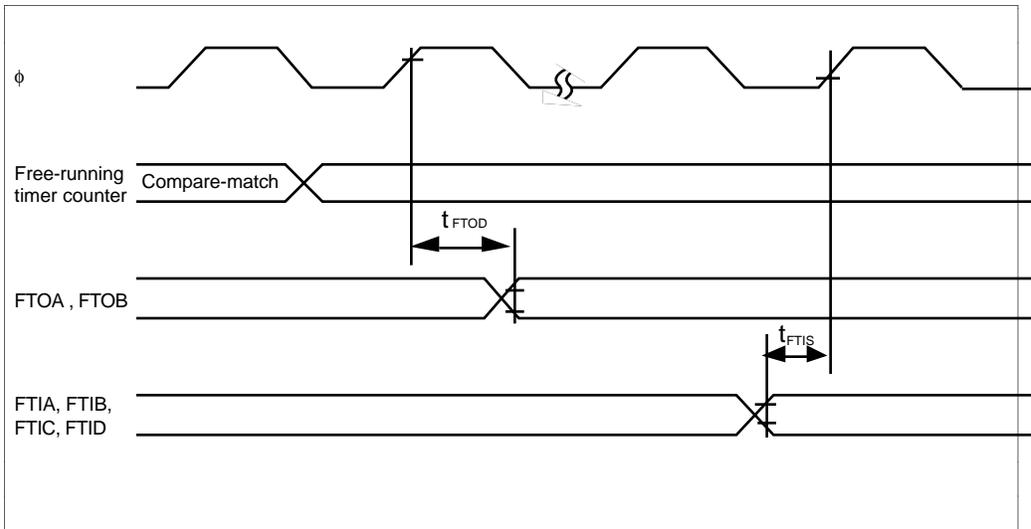

Figure 17-10 Free-Running Timer Input/Output Timing
- 17.3.3 16-Bit Free-Running Timer Timing Figures 17-10 to 17-11